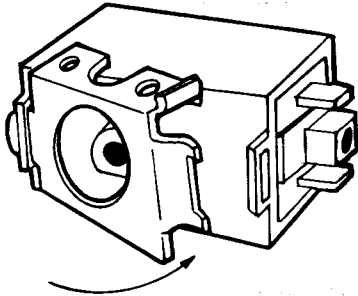

FIGURE 6
2. The horizontal universal bracket consists of two parts as shown in Figure 5. Attach the smaller bracket to the control as shown in Figures 6 and 7. With the control facing front and the terminals to the right, place the tab of the bracket into the left slot of the control. Keeping the bracket against the face plate, use needle-nose pliers to bend the other slot to secure the bracket. If necessary, the bracket may be removed by reversing this procedure.